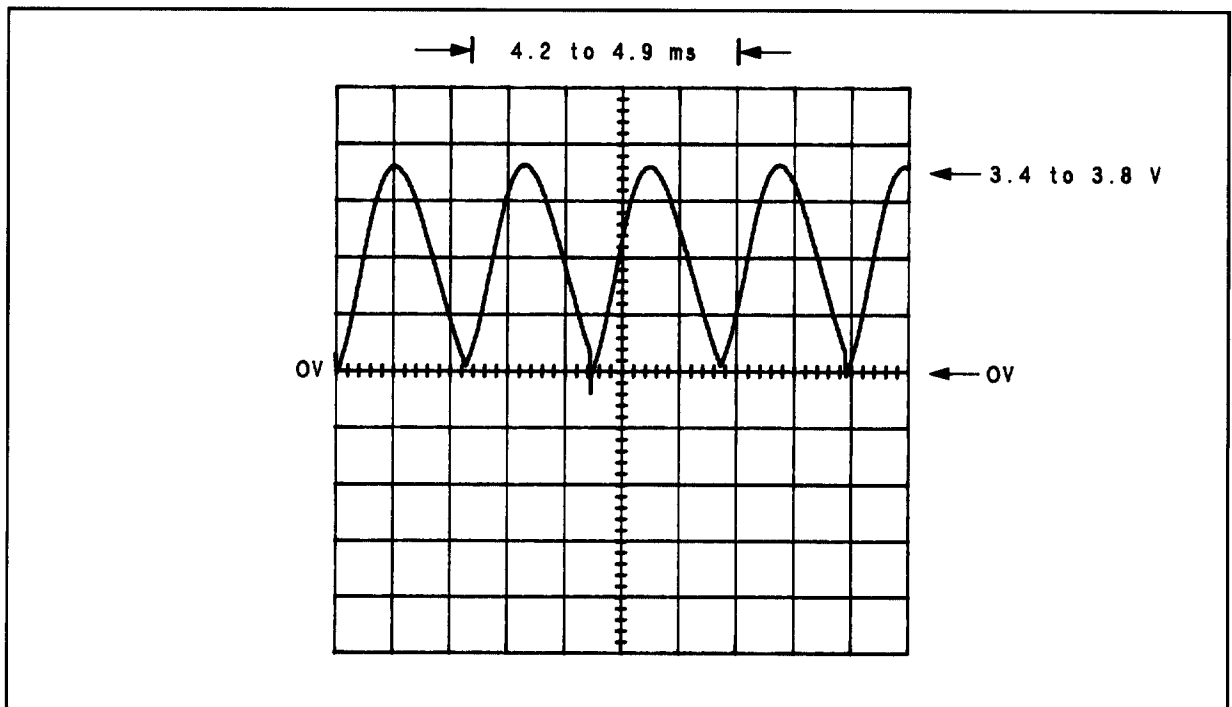

Figure 8F-7. Waveform for $\boxed{\checkmark 1}$ Step 2
2. Connect a high-impedance, dc coupled oscilloscope to A53TP2 (Φ DET). (See Service Sheet 1.) The waveform should appear as in Figure 8F-7.